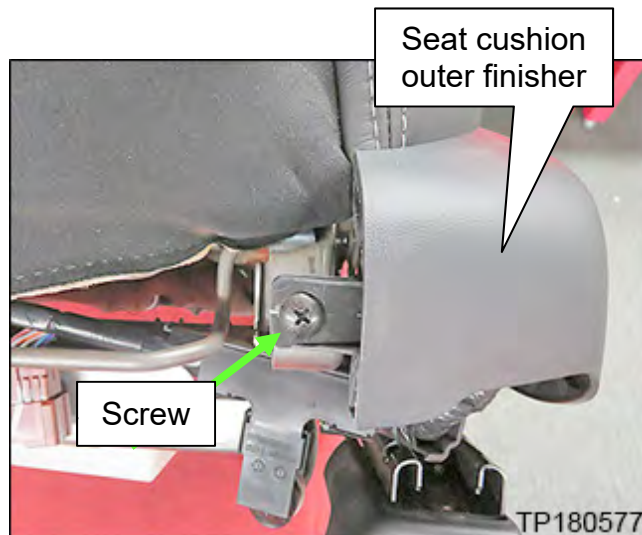

Figure 47
**NOTE:** The screw is shown on the left hand side for the driver's seat Figure 47. Passenger seats will have this screw on the right hand side.